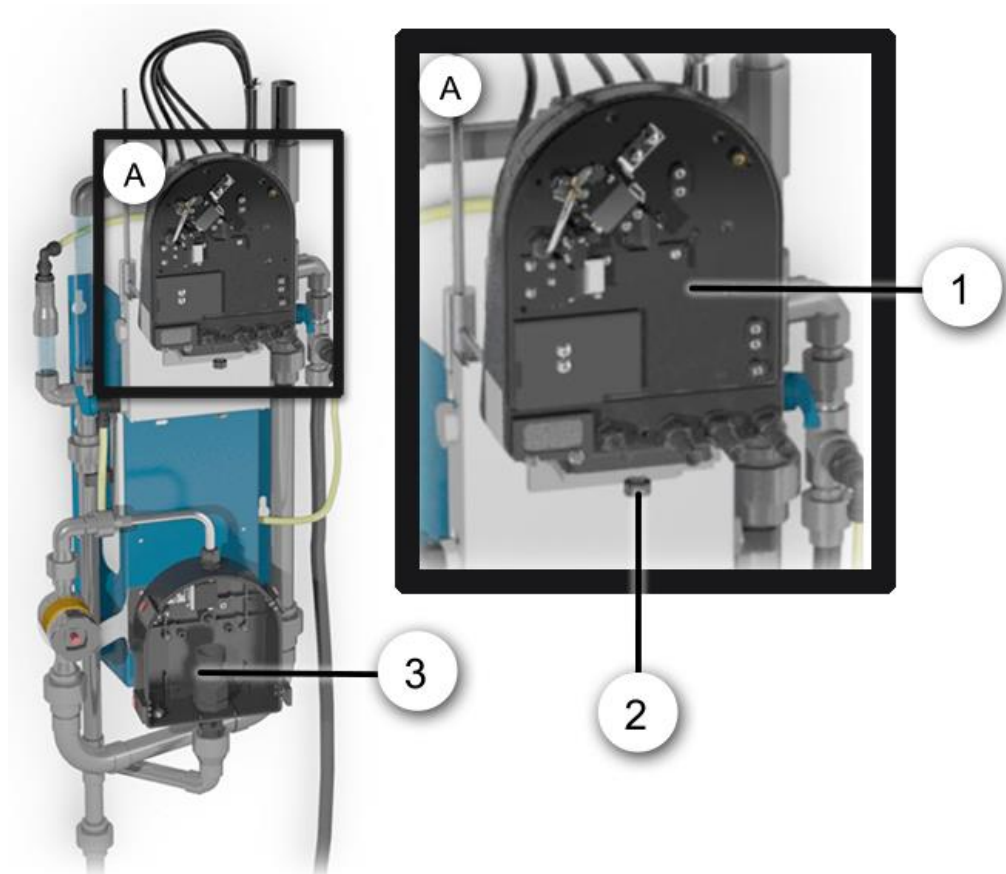

Figure 19: Optics unit fastened to docking station
<p>2.</p>	<p>Remove the optics unit (Figure 19, pos. 1) from the photometer, position it on the docking station (Figure 19, pos. 2) and then fasten in place with the knurled screw.</p>